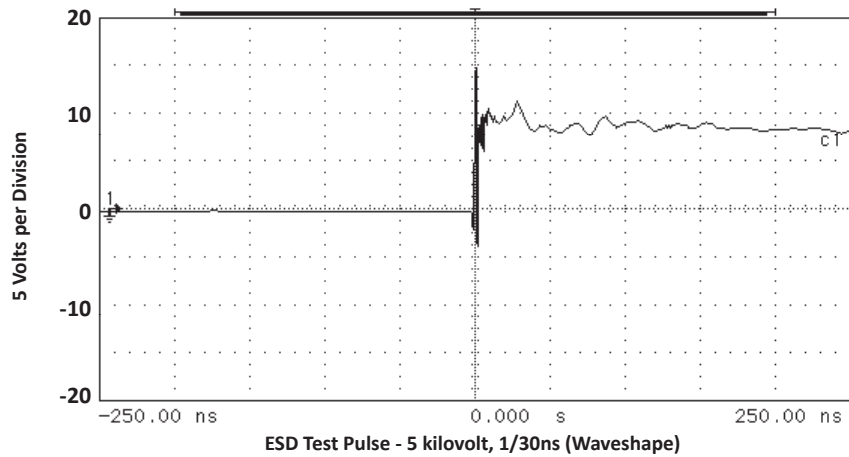

FIGURE 5
- As shown in Figure 5, REF 1 is connected to ground, REF 2 is connected to + V_{CC} and input applies to $V_{CC} = 12V$, $V_{SIGN} = 30mV$, $F = 1MHz$.